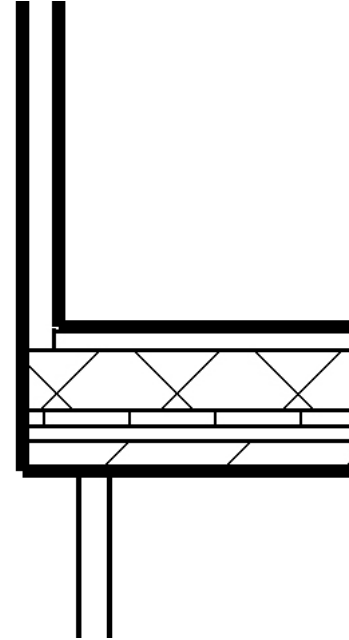

Figure 3-3.2 First interior wall
4. Select the interior wall you just drew and use the **Align** tool to align it with the edge of the exterior wall in the atrium (Figure 3-3.1). When you are done, the wall should look like Figure 3-3.2.